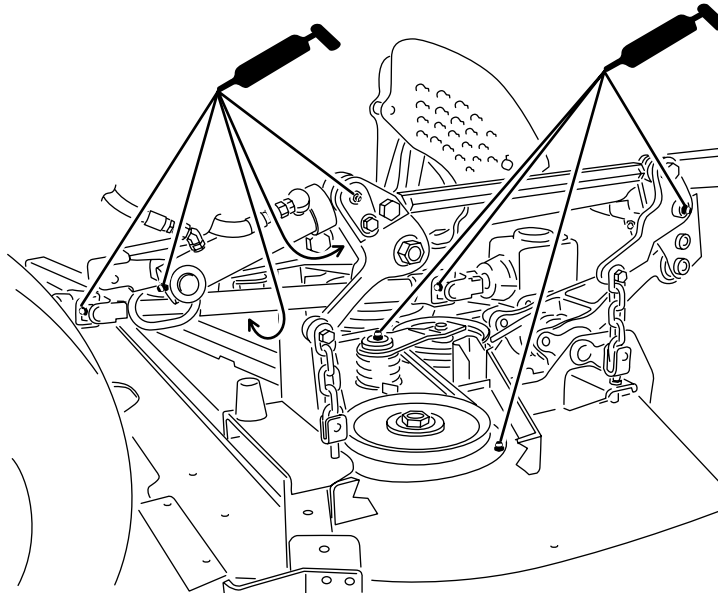

Figure 66
1. Wipe the grease fittings clean so that foreign matter cannot be forced into the bearing or bushing (Figure 66).